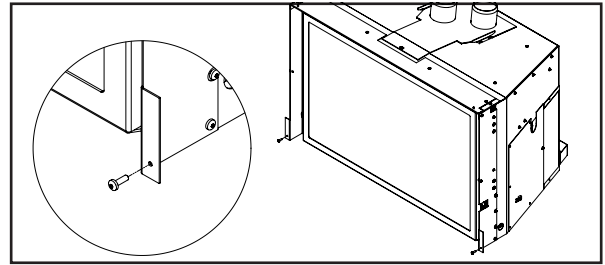

Figure 44: Trimmable Panel Screw Install.
**INSTALLATION:** Using a T20 screwdriver, screw one (1) #8-32 x .5" screws approximately 1/4" into the bottom of each Side Extension (see Figure 44).